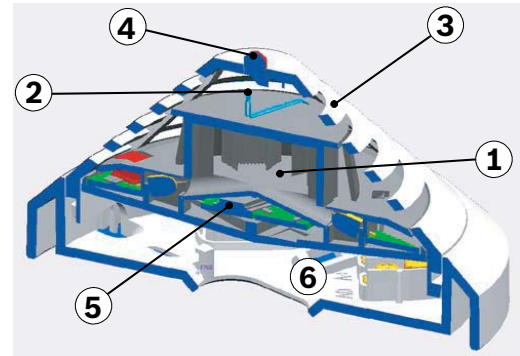

Figure 2.1 Detector Configuration
An LED sends light into the measuring chamber (see *Figure 2.1*, item 1), where it is absorbed by the labyrinth structure. In the event of a fire, smoke enters the measuring chamber. The light is scattered by the smoke particles and hits the photo diodes, which transform the quantity of light into a proportional electrical signal.
A thermistor (see *Figure 2.1*, item 2) in a resistance network is used as a thermal sensor; an analog-digital converter measures the temperature-dependent voltage at regular intervals. Depending on the specified detector class, the thermal sensor triggers the alarm status when the maximum temperature of 54 °C or 69 °C is exceeded (thermal maximum), or if the temperature rises by a defined amount within a specified time (thermal differential).
The gas sensor (see *Figure 2.1*, item 3) detects mainly the carbon monoxide (CO) that is produced by a fire, but it also detects hydrogen (H) and nitrogen monoxide (NO).